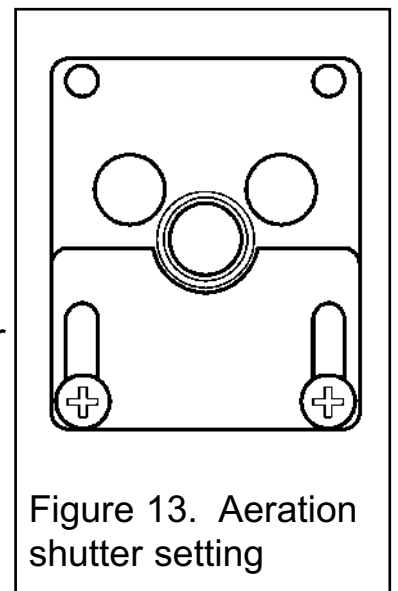

Figure 13. Aeration shutter setting
- The aeration shutter is factory set. It is important to ensure that the aeration setting is correct. Check the aeration shutter setting (See figure 13).
- To adjust the aeration setting, loosen the two aeration shutter screws, slide the aeration shutter to the position shown in figure 13 and tighten the fixing screws.